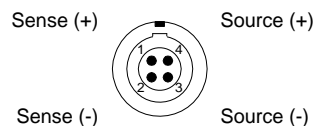

Fig. 100 – Pro II-RTD-8 Rev. E: Pin assignment Lemo connector
- Pro II-RTD-8-L Rev. E: Module inputs on Lemo connectors. Pin assignment see fig. 100.